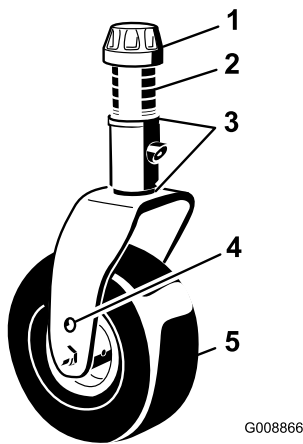
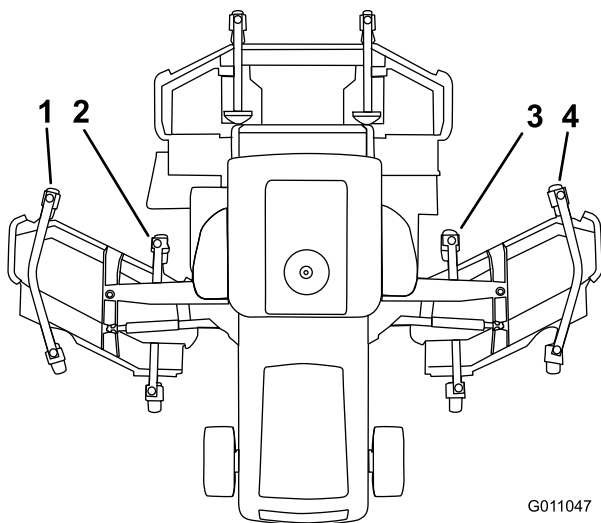

Figure 32
Figure 33
3. If the inside edge of the side cutting unit is too high relative to the outside edge of the front cutting unit, remove one 1/8 inch shim from the bottom of the front inside castor arm on the side cutting unit (Figure 32 and Figure 33). Recheck measurement between outside edges of both side cutting units and inside edge of side cutting unit to outside edge of front cutting unit.
4. If inside edge is still too high, remove an additional 1/8 inch shim from bottom of front inside castor arm of the side cutting unit **and** one 1/8 inch shim from the front outside castor arm of the side cutting unit (Figure 32 and Figure 33).
5. If the inside edge of the side cutting unit is too low relative to the outside edge of the front cutting unit, add one 1/8 inch shim to the bottom of the front inside castor arm on the side cutting unit (Figure 32 and Figure 33). Check measurement between outside edges of both side cutting units and inside edge of side cutting unit to outside edge of front cutting unit.